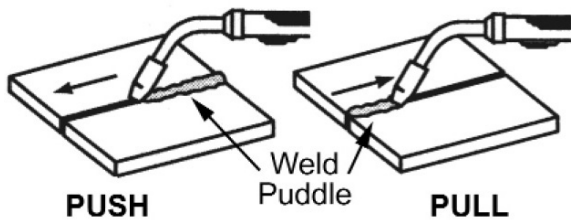

Figure 12. Travel Direction
1. **TRAVEL DIRECTION** is the direction the gun is moved along the weld joint in relation to the weld puddle. The gun is either **PUSHED** (see Figure 12) into the weld puddle or **PULLED** away from the weld puddle.